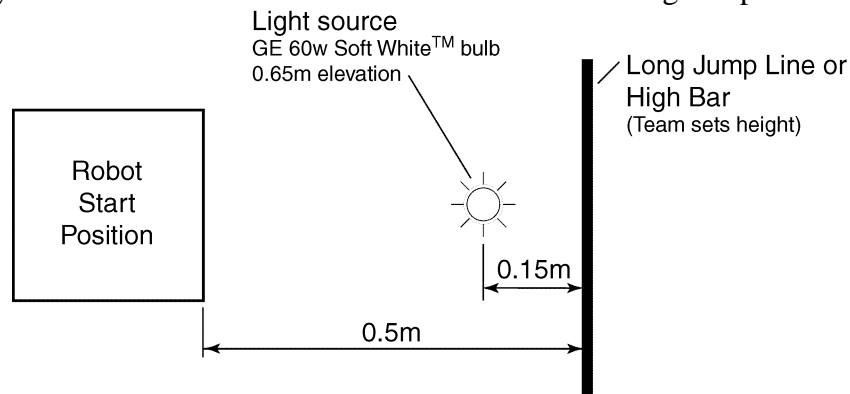

Figure 1. High Jump and Long Jump diagram.
1. **Long Jump:** During the long jump event each robot will have two chances to jump as great a distance as possible. As shown in Figure 1, the robots will start 0.5m from the jump line. At the start of the event the robots will jump towards the line. Before crossing the line the robot will jump and attempt to travel as great a distance as possible before contacting the ground again. Forty-five seconds is the time limit each time a robot attempts this event.